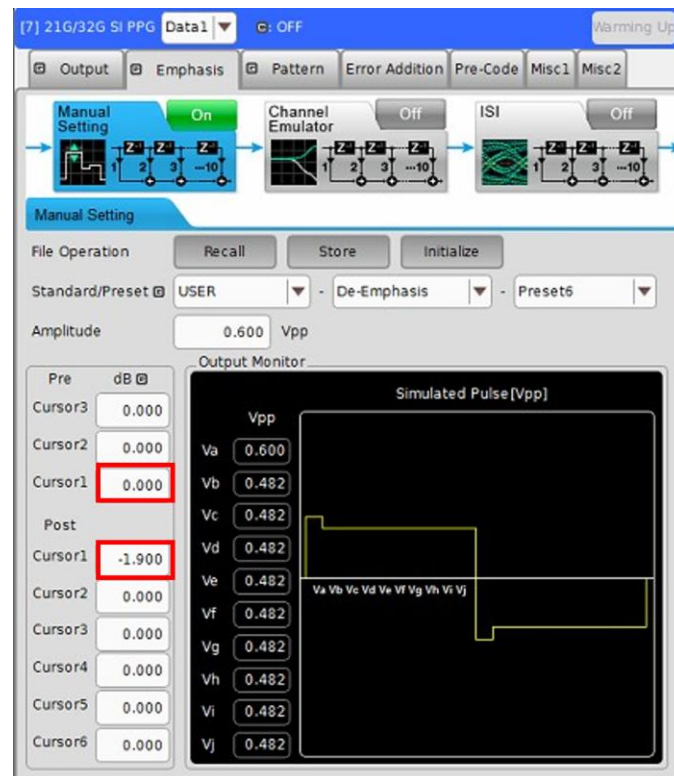

FIGURE 55. DEEMPHASIS CONFIGURATION (2)
Deemphasis Configuration (2)	Preshoot Disabled, Deemphasis Enabled. See Figure 55.